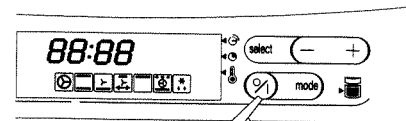

Fig. 4
1. Press the  touch control (fig. 4).